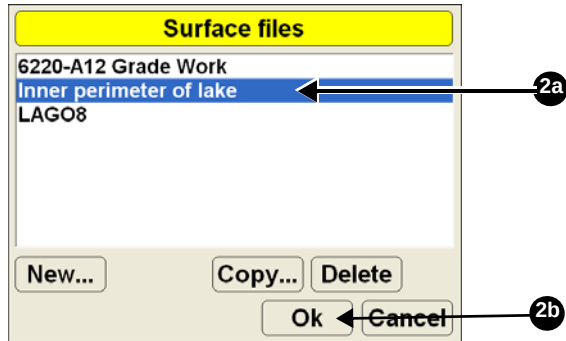

Figure 3-15. Applying a Working Surface File
2. Select the working surface file for the jobsite and press **Ok** (Figure 3-15).